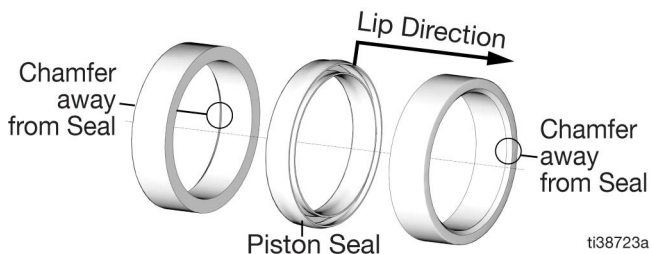

FIG. 25
- The chamfer on the seal back-up ring must point away from the seal (FIG. 25).